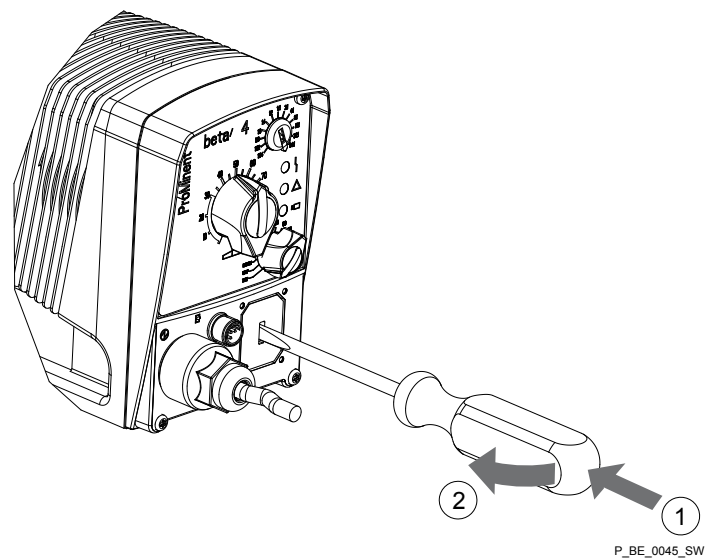

Fig. 41: Breaking open knock-out opening
2. ➤ Break open the cover with a movement to the side Fig. 41.